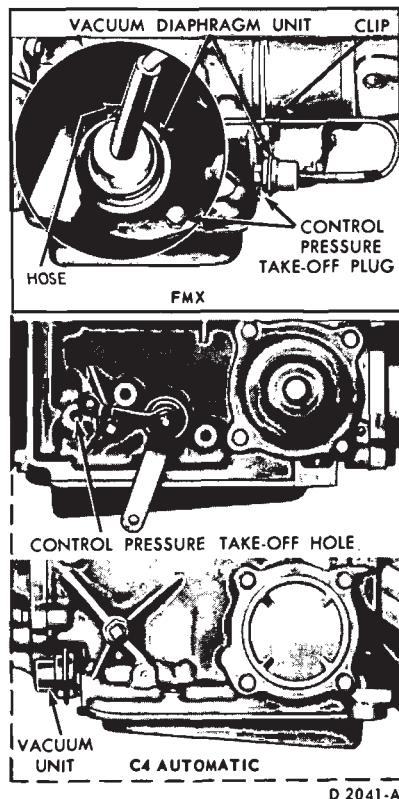

FIG. 6—Typical Vacuum Diaphragm and Control Pressure Connecting Point
2. Attach the pressure gauge to the control pressure outlet at the transmission (Figs. 6 and 7).